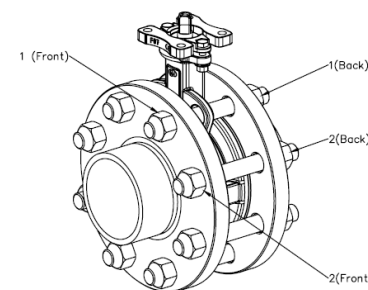

Figure 3
- Tighten the flange bolts in a diagonally opposite way to ensure that the valve is evenly stressed. (see Fig.3)